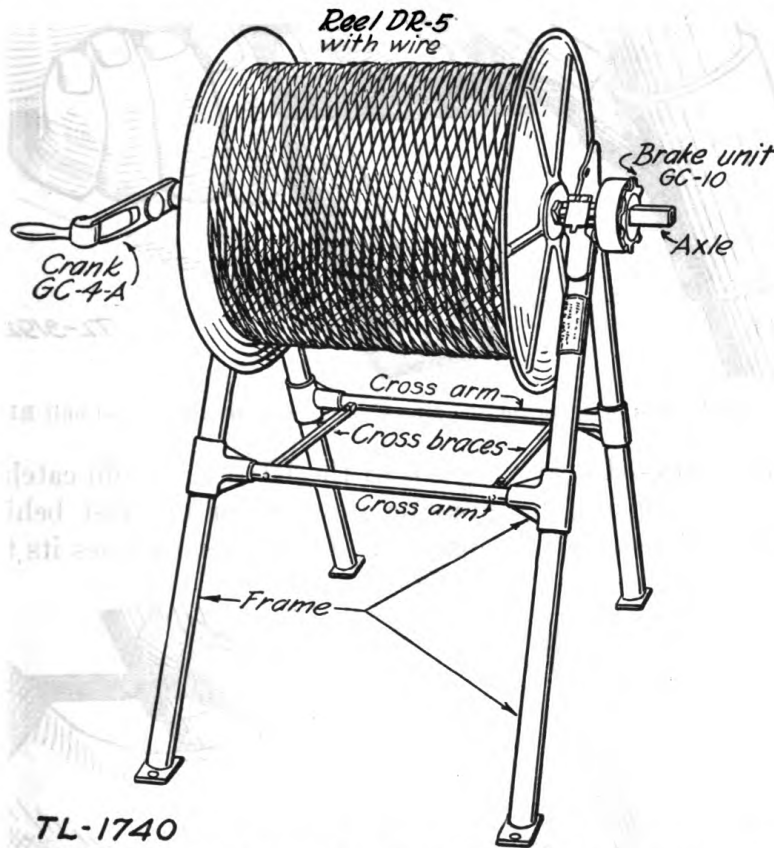
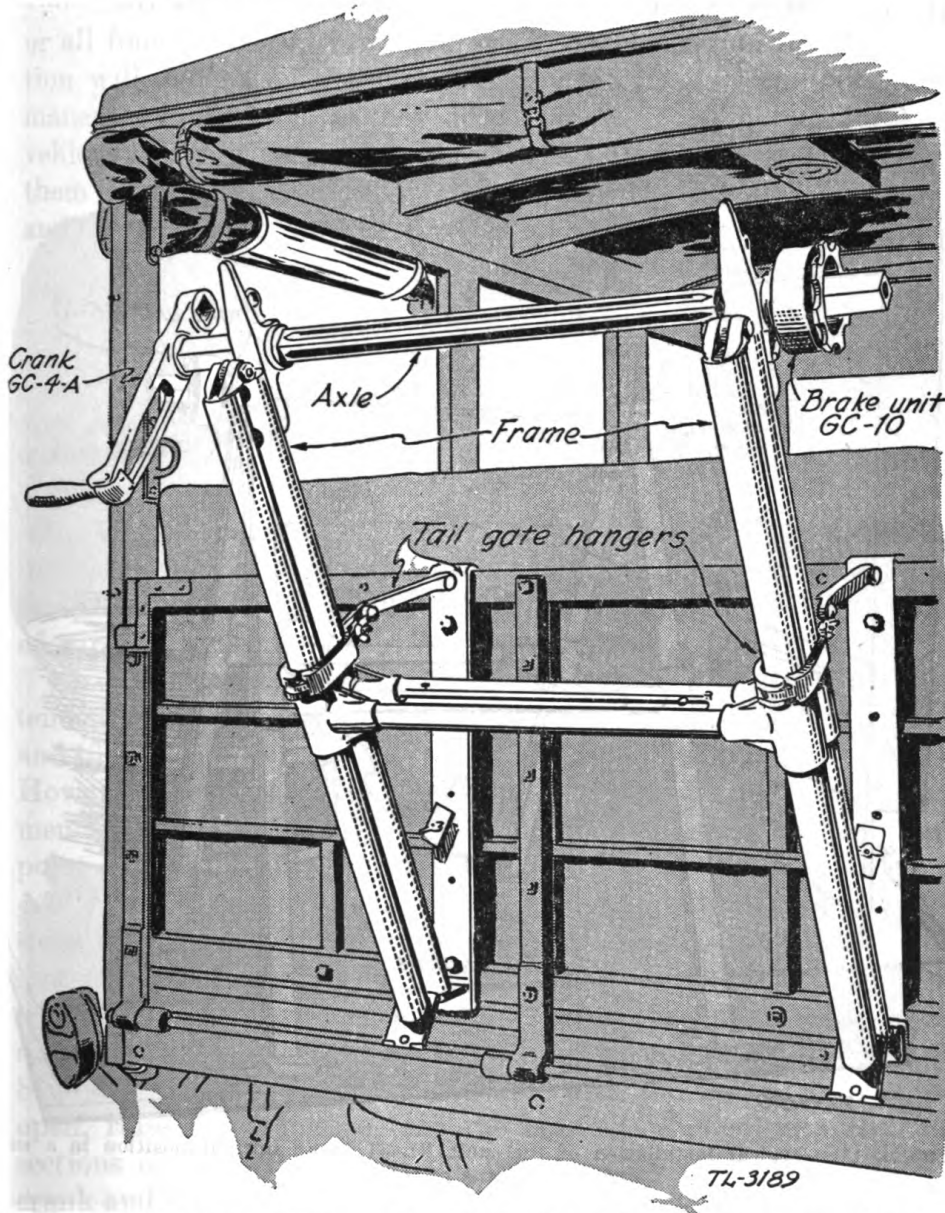
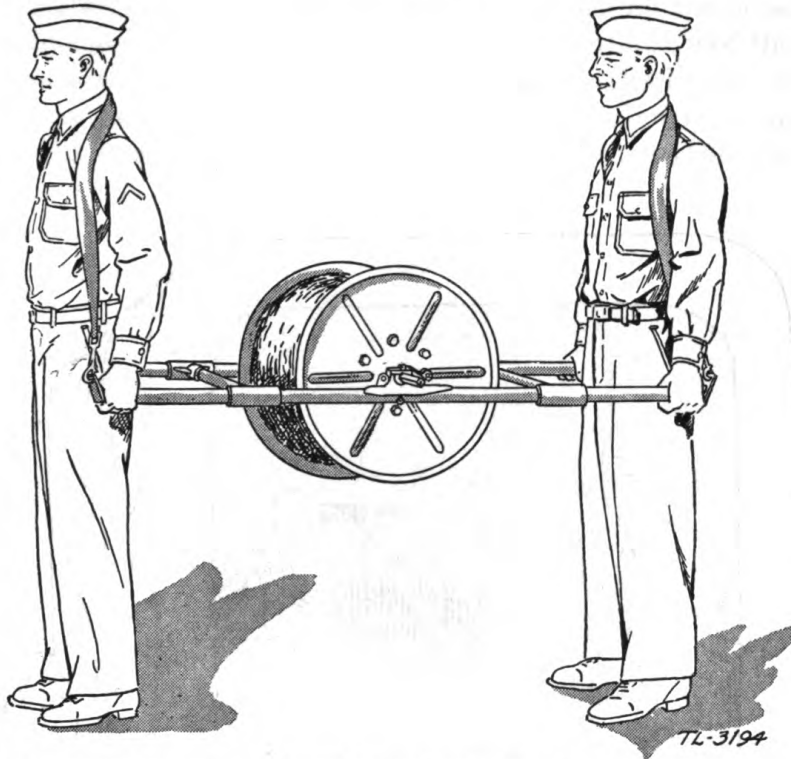

FIGURE 2.—Reel unit RL-31 completely set up, with a Reel DR-5 in place. Note how the two cross braces keep the frame locked in a letter A position.
FIGURE 10.—Folded-up RL-31 mounted on back of a station wagon by means of tail gate hangers. Note how top clamps encircle both legs and hold them securely.
FIGURE 14.—Convenient means of carrying reel unit RL-31 loaded with mile of wire on reel DR-5.
lines, the unit can also be transported by two men in litter fashion (fig. 14), set up on the ground at any selected point (figs. 2 and 12), and the wire then pulled out by hand.
2. **Frame.**—*a. General.*—The frame of the reel unit RL-31 consists of two H-shaped sections of aluminum-alloy pipe hinged together. Directly above the joint of each section is an open bronze bearing with a hinged cap to take the axle. As an upright standard for the DR-4 or DR-5 reel (fig. 2), the frame is usually opened to
wagon” type of vehicle. They are bolted permanently in place, as shown in figure 10, and the folded frame is then set into them. The tail gate must be at least 21 inches deep to accommodate these hangers. If it is shallower, they cannot be used, and the toe clamps should be employed instead.
10. Transportation.—*a. General.*—The reel unit RL-31 is intended for use mainly in small trucks, as indicated in figures 10, 11, and 13. Two lines can be payed out rapidly and also recovered rapidly. However, for short local lines, the unit can also be transported by two men in litter fashion (fig. 14) set up on the ground at any selected point (figs. 2 and 12), and the wire then pulled out by hand.
b. Litter carry.—(1) Place the loaded reel on the ground, with the sides upright. Fold the cross braces of the RL-31 flat against the cross arms and open up the double H-frames. The heavy castings on which the axle bearings are mounted will keep the assembly open in a straight line. Place the frame over the reel and rest it on the ground. Slip the axle through the reel, and, with the hinged bearing caps open, raise the frame so that the bearings engage with the round sections of the axle. Snap the bearing caps closed and attach the crank and the brake unit.